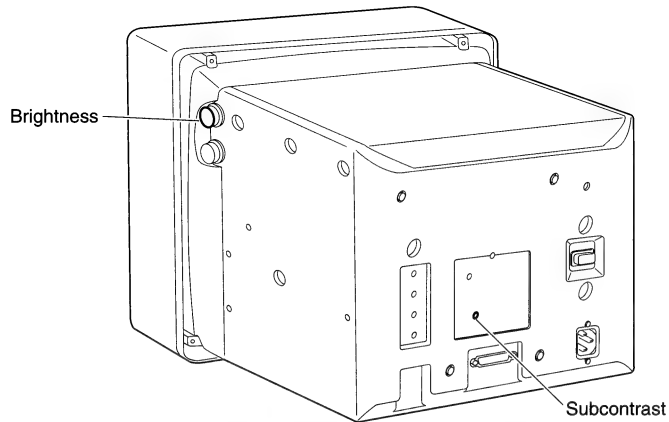

Figure 9 Brightness and Subcontrast Controls
7. FIGURE 9. Select the all-white screen test pattern and measure the screen luminance. Adjust the Subcontrast control until the screen luminance reads at high "9" on the light meter.
8. FIGURE 9. Turn the brightness control to maximum (full clockwise).
10. FIGURE 9. Turn the brightness control to the detent position (midrange).